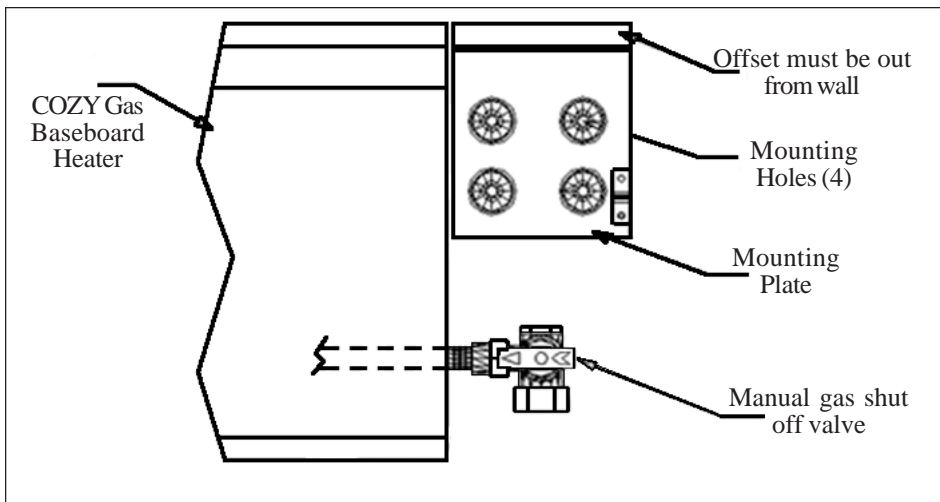

FIGURE 1
STEP 2. Verify air intake tube extends 1-1/2" past surface of outside wall and the vent exhaust tube extends 2-1/2" past surface of outside wall. See Figure 1.
- STEP 1.** With the offset up and out from the wall, place the mounting bracket flush to the right side of the heater cabinet. Align the top of the mounting plate with the top of heater cabinet. Mark the location of the mounting holes. See Figure 1.
- STEP 1.** Place the mounting plate against the wall and flush with the bottom of the gas baseboard heater. The mounting plate must cover the manual gas shut off valve. See Figure 1. Mark the location of the mounting holes.
NOTE: This kit has been designed and certified for use with a Cozy gas baseboard heater only. Use only factory supplied kit and components. See Figure 1 for parts list of Vent Weather Seal Kit. This kit must be installed by a qualified installer or service technician.
- STEP 1.** Change the location for the vent by following Figure 1 in the installation and operating instructions provided with the Cozy gas baseboard heater.
- STEP 2.** Drill a three (3) inch diameter hole through the wall of the chosen location.